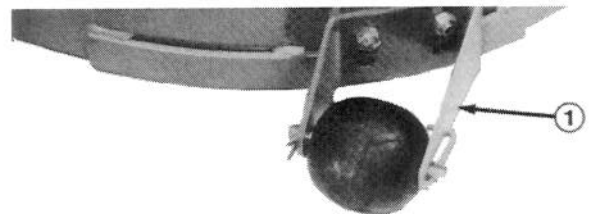

Figure 2
1. Remove the cotter pins securing the roller shafts to the underside of the deck (Fig. 2).